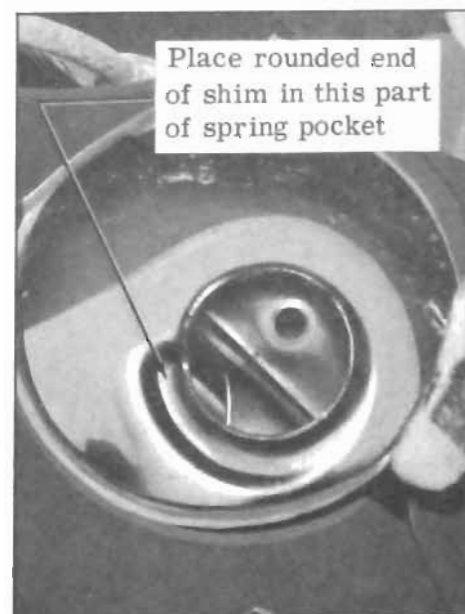

Figure 7-26—Spring Seat Location
4. Install spring in car. **CAUTION:** Be certain that end of shim is seated in groove as shown in Figure 7-26.